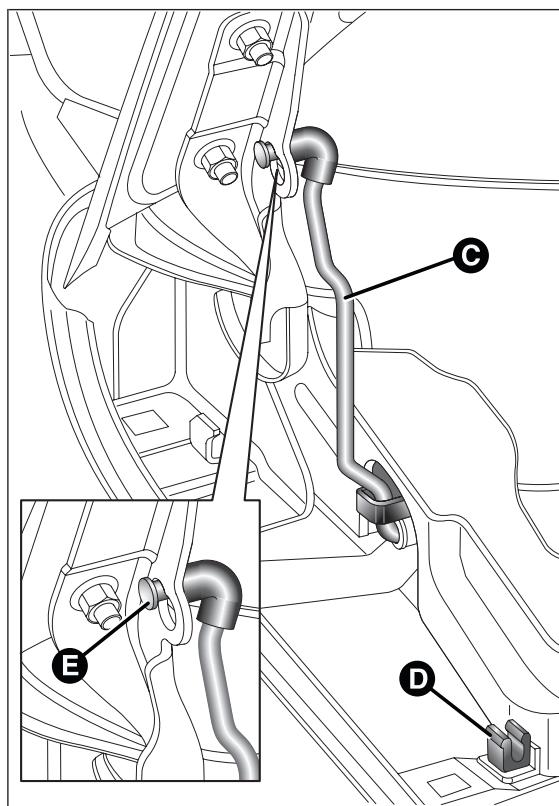

fig. 59
- ☐ lift the bonnet and, at the same time, release the supporting rod C fig. 59 from its catch D, then insert the end of the rod into housing E in the bonnet (larger hole) and push to safety position (smaller hole), as shown in the figure.
- ☐ keep the bonnet raised with one hand and remove rod C fig. 59 from housing E with the other, inverting the opening motion, then fit it back into its catch D;